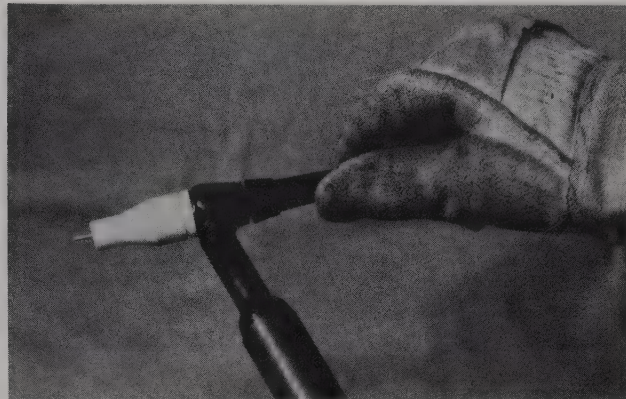

Fig. 22-6. The electrode is clamped tightly by the collet when the end cap is tightened.
6. When the electrode extends the right amount, tighten the end cap. See Fig. 22-6. This will make the collet clamp the electrode and secure it. To remove or adjust the electrode, loosen the end cap.